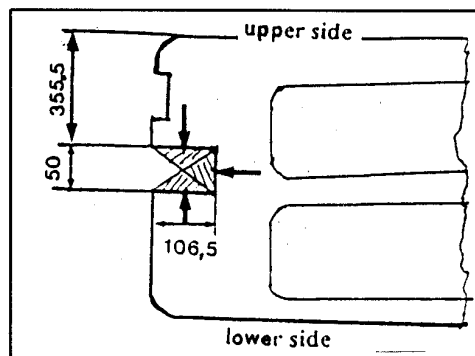

Figure 5
5. Place the removed door lining onto a flat surface. Mark " X " shape of the upper lining as shown in figure 5. (355.5 mm from upper lining edge, mark cut 50.0 X 106.5 mm).
Using a sharp knife, cut the lining according to the " X " shape shown in figure 5. The three triangles will be folded inwards after cutting the hard board (see arrows figure 5)